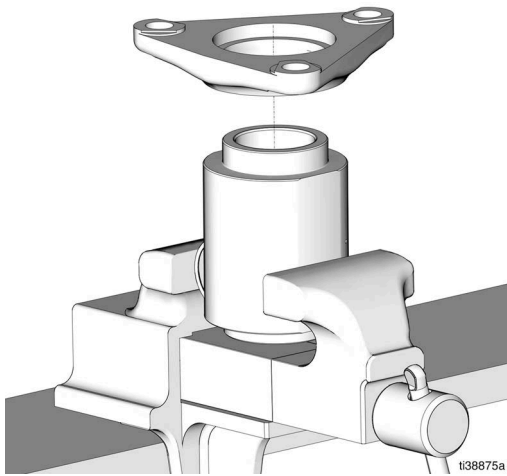

FIG. 20
4. Reinstall the outlet housing adapter by lining up the hole in the adapter with the pin on the outlet housing (FIG. 20).